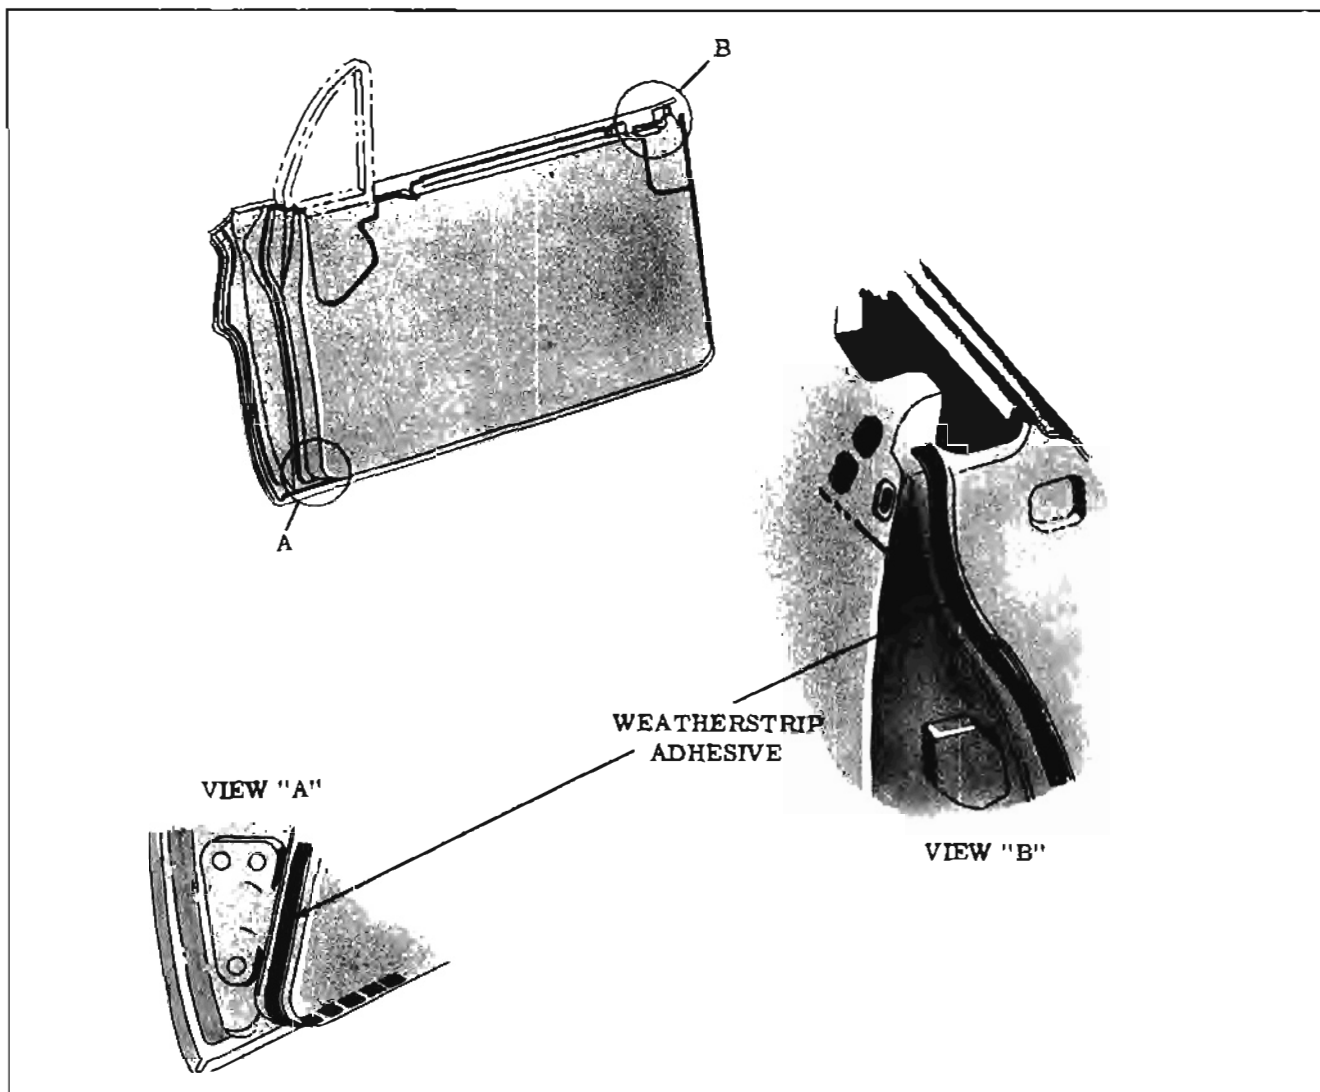
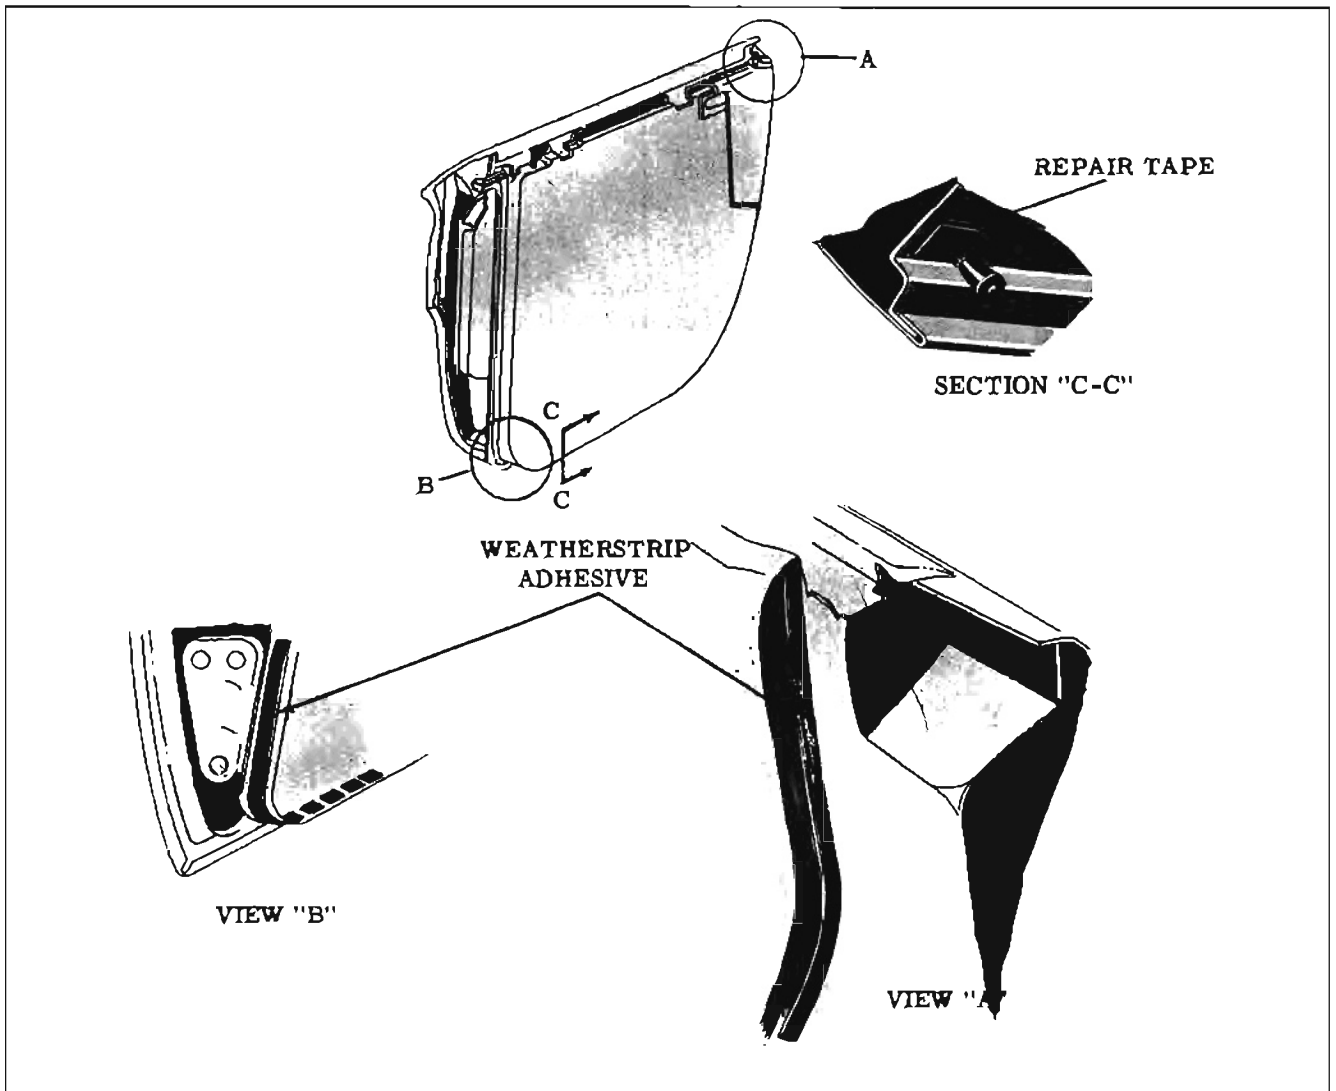

Fig. 16-17 Front Door Weatherstrip Cementing
Fig. 16-18 Rear Door Weatherstrip Cementing
4. Carefully break cement bonds securing weatherstrip to door. A flat-bladed tool, such as a putty knife, will prove helpful in breaking cement bond. See Fig. 16-17 for front door cement usage and Fig. 16-18 for rear door cement usage.
2. Clean off old cement from door to insure a clean cementing surface. Apply a bead of an approved weatherstrip adhesive to door as shown in Figs. 16-17 and 16-18.